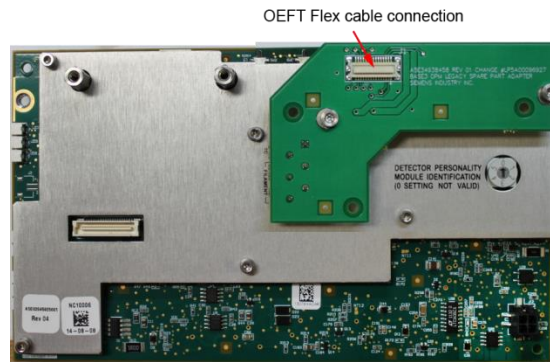
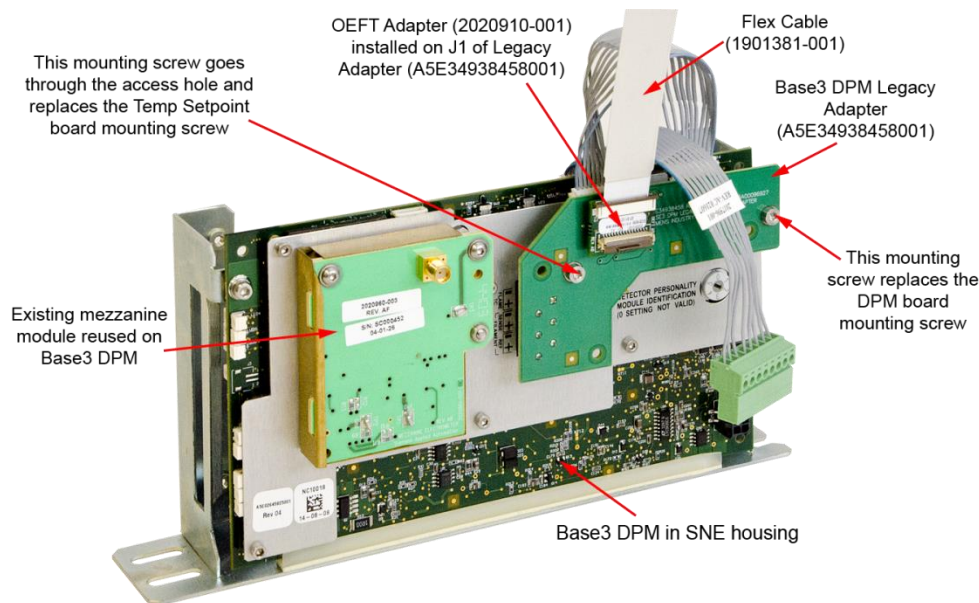
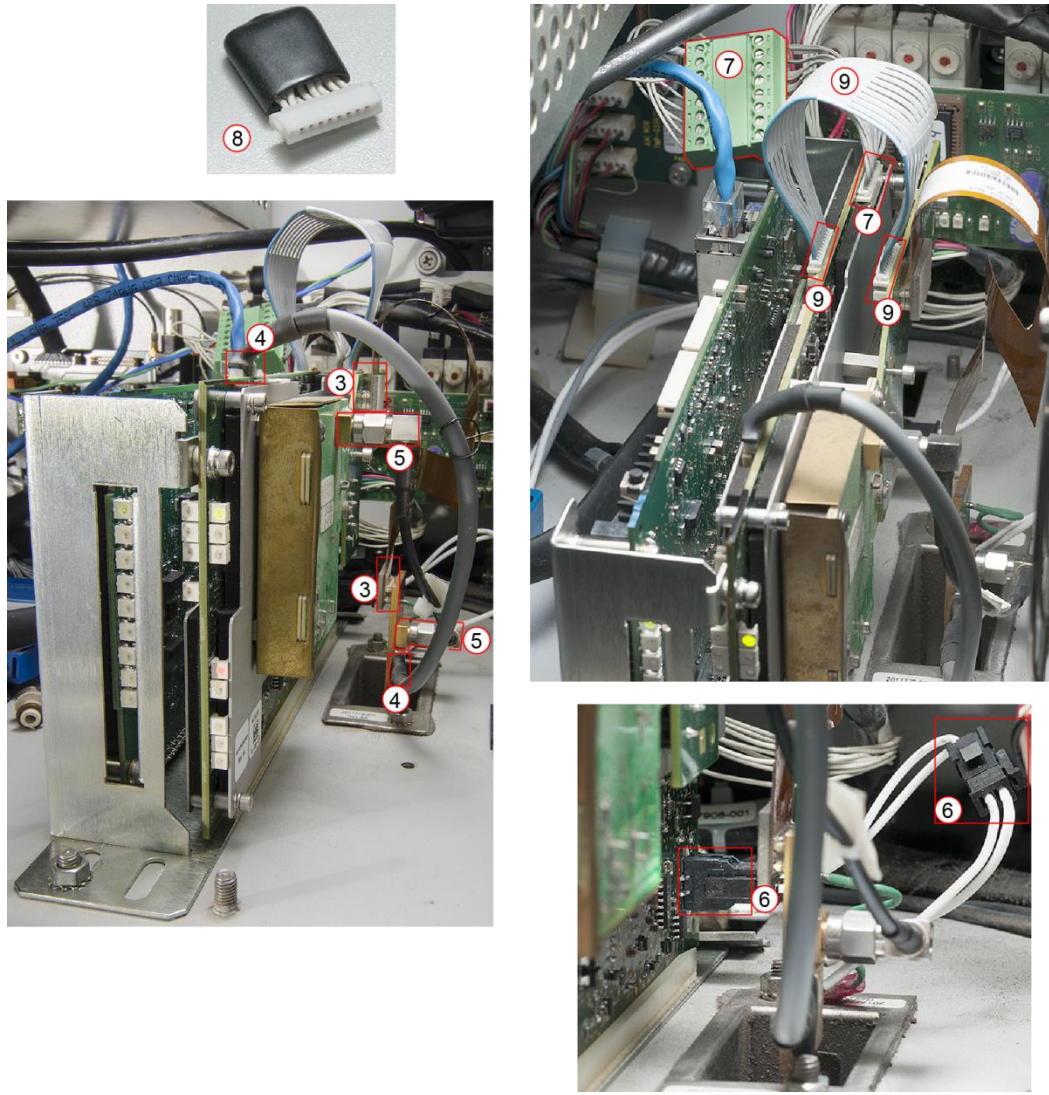

Figure 20. Base3 DPM with Adapter Board
Figure 21.
Figure 23. Base3 DPM Interfaced to Revised Feedthrough
2. Install new Base3 DPM Legacy Adapter PCBA (A5E34938458001) to the new Base3 DPM as shown in Figure 20 and Figure 21. The black connector on the adapter board connects to the filament connector of the Base3 DPM. The left side captive screw is installed in place of the original screw holding the Temperature Set Point Resistor boards and the right side captive screw is installed in place of the right screw connecting the DPM to the cage.
3. Attach the OEFT Adapter PCBA (2020910-001) to the Base3 DPM Legacy Adapter (connector J1) as shown in Figure 21. Note that the notches in the corners of the two connectors must match.
4. Attach the Shielded 6 inch 30 conductor laminated flex cable (1901381-001) to the OEFT Adapter PCBA. Open the connector door from the laminated flex cable. (See Figure 21.) Install the laminated flex cable and close the door on the connector. The door on the connector is fragile.
2. Install new Base3 DPM Legacy Adapter PCBA (A5E34938458001) to the new Base3 DPM as shown in Figure 20 and Figure 23. The black connector on the adapter board connects to the filament connector of the Base3 DPM. The left side captive screw is installed in place of the original screw holding the Temperature Set Point Resistor boards and the right side captive screw is installed in place of the right screw connecting the DPM to the cage.
3. Attach the OEFT flex cable PCBA (2020902-001) to the OEFT as shown in Figure 23. The other end will connect to the Base3 DPM Legacy Adapter (connector J1)
In Figure 23, the numbers refer to the steps on the preceding page.